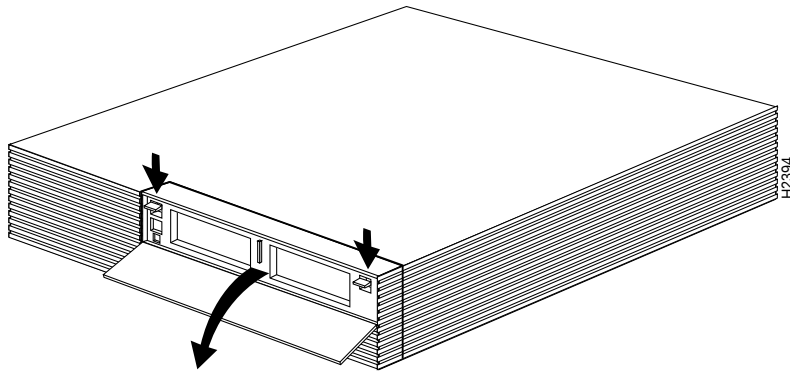

Figure 4-1 Removing the Front Bezel
- Step 1** Remove the front bezel by pressing down on the tabs at each side. (See Figure 4-1.)